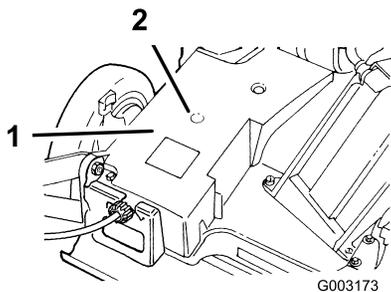

Figure 23
2. Install a grease gun onto the fitting through the belt cover opening (Figure 23).